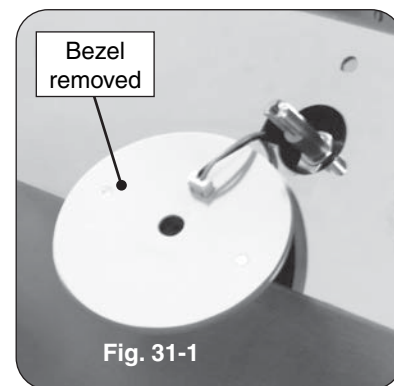

Fig. 31-1
4. Slowly lift the lighted bezels to clear the valve stems, and let rest as shown in Fig. 31-1.